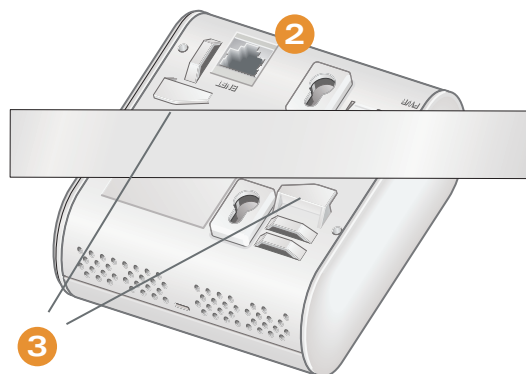

Figure 2 Engaging the ceiling tile rail
1. Pull the Fast Ethernet (FE) cable through a prepared hole in a ceiling tile at the location where you want to install the AP 65.
3. Align the AP 65 with the appropriate ceiling tile rail, engaging the rail at approximately a 30 degree angle (see Figure 2).